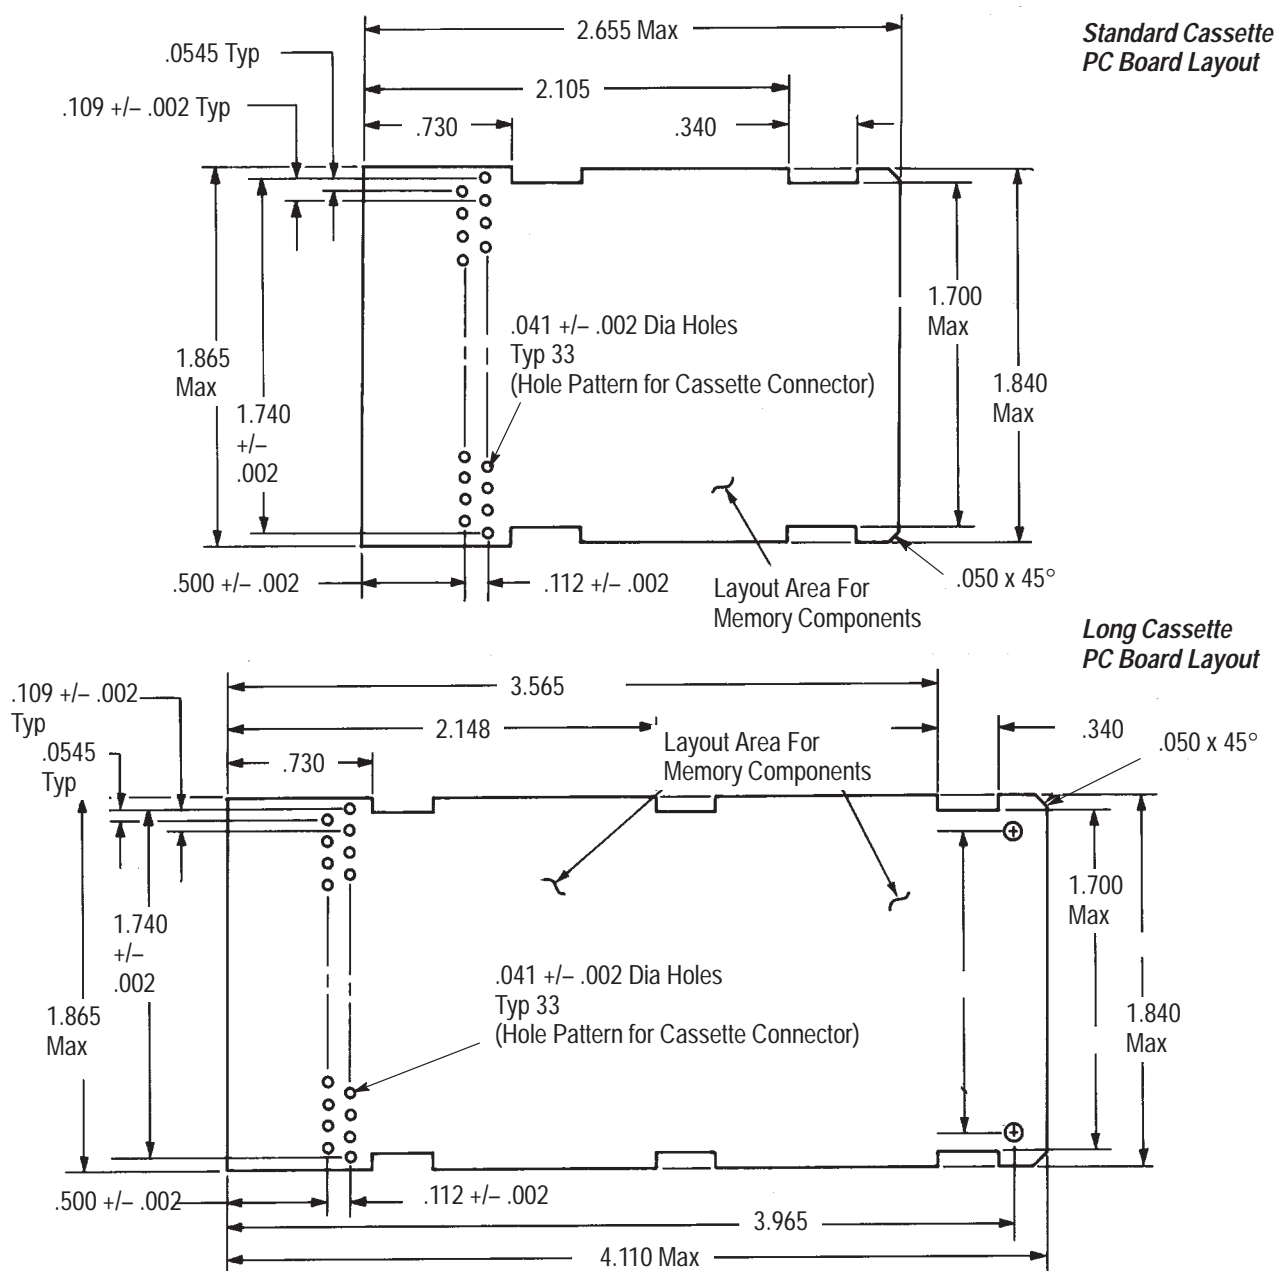

Figure 2
3.1. Cassette Assembly (Figure 2 and Figure 3)
1. Determine whether a standard or long unit will be used. Then, using the dimensions shown in Figure 2, select a pc board for the cassette. Make the latch and beveled corner cuts on the pc board edges as shown.